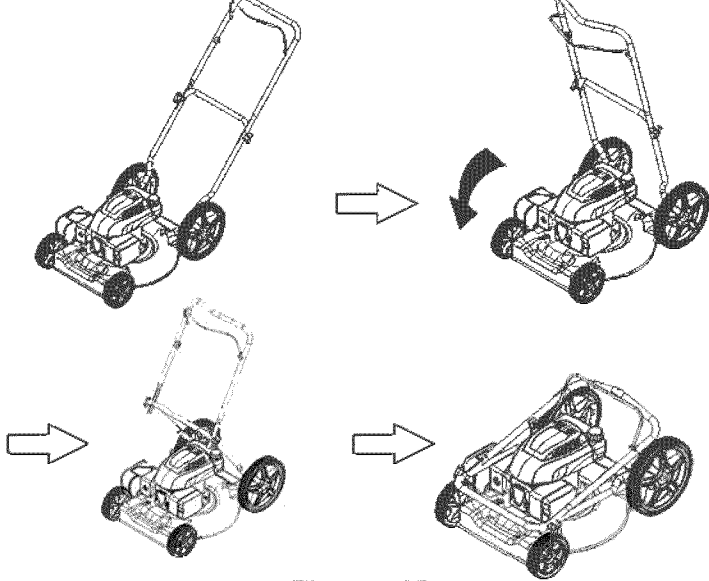

Figure 18
1. Loosen the handle knobs until you can move the handle freely (Figure 18).
2. Move the handle forward as shown in Figure 18.